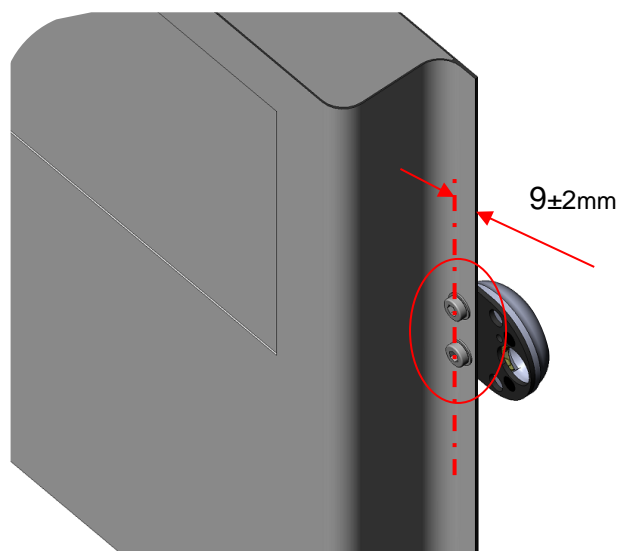

Fig.5
- **The position of the first two 8mm holes** is about 9 ± 2 mm from the vertical edge of the door that opens (see fig.5). This is a very durable tailgate surface. The indicated tolerance serves to allow the positioning of the cylindrical head of the M8 pin within the edge and never beyond it.
The armor fixing normally foresees the holes on the extreme edge of the tailgate using the two M8 pins with button head. Before drilling, check that the head of the M8 pin is contained in the edge (see fig.5).